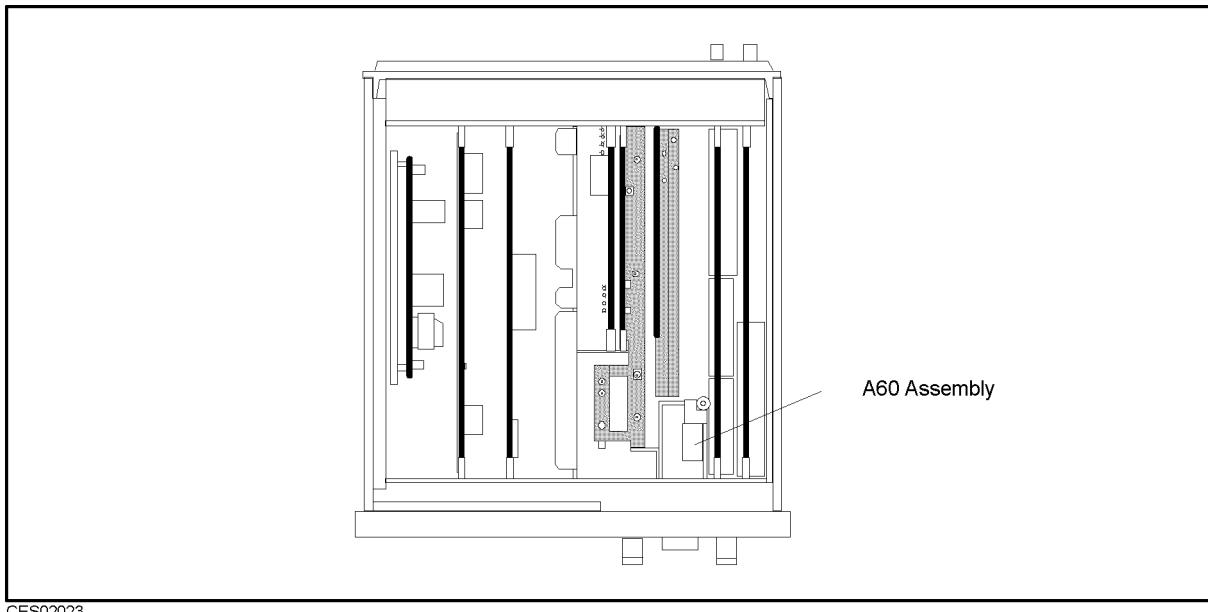

Figure 3-20. 10 MHz Reference Oscillator Frequency Adjustment Location
2. Pull the A60 assembly out. Place it on the analyzer with the bracket facing upward. The A60 location is shown in Figure 3-20.